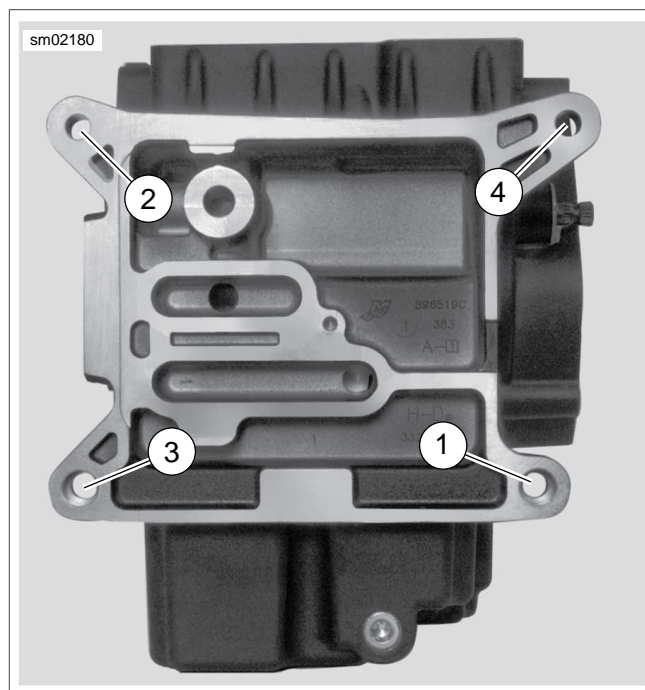

Figure 3-11. Transmission Housing to Crankcase Torque Sequence
5. See Figure 3-11. Tighten the four transmission mounting bolts in the sequence shown as follows: